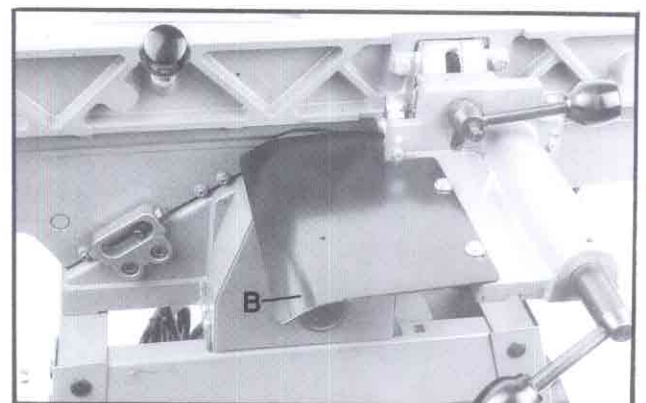

Fig. 10
4. Fasten the cutter guard (B, Fig. 10) to the fence with the two 1/4" x 1/2" pan head screws and two 1/4" flat washers.